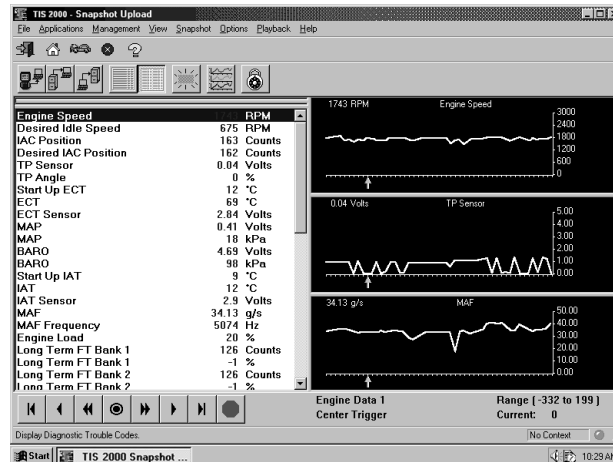

FIGURE 8-47. Three Parameters Shown in Graph Form
1. Click on the Display Graph icon (Figure 8-47).